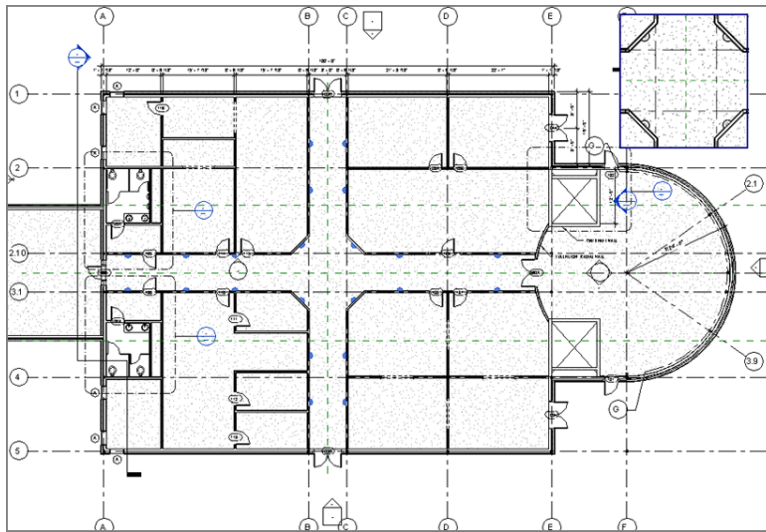

FIGURE 9.47: Copying the sconce to the other hallway walls
6. Add sconces to the walls of the hallways as appropriate, as shown in Figure 9.47.